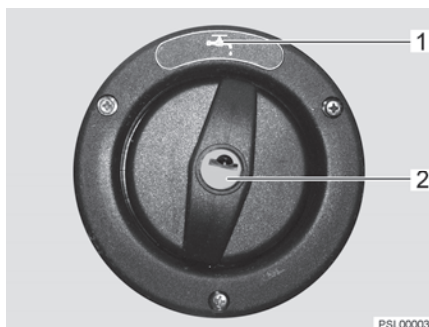

Fig. 140 Cap for the drinking water filler neck
The drinking water filler neck is indicated by the symbol "🚰" (Fig. 140,1). The cap is opened and closed using the key for the external flap locks.
- Insert key into locking cylinder (Fig. 140,2) and turn a quarter turn in an anticlockwise direction.
- Open drinking water filler neck (Fig. 140).